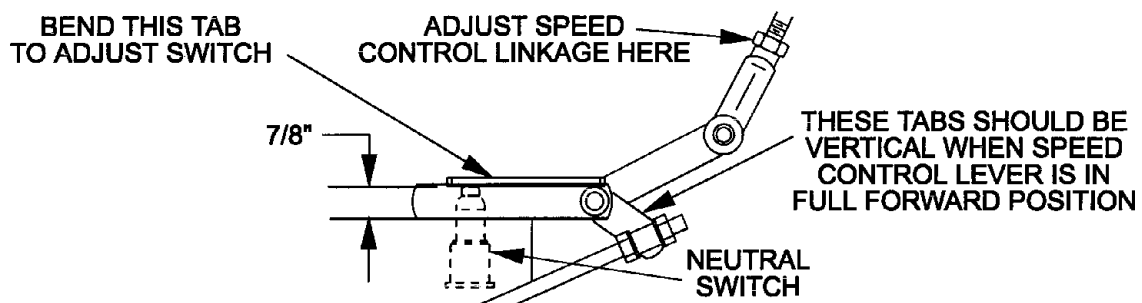

FIG. 8
2. Move speed control lever (located on console) to the full forward position and check orientation of tabs on the ends of the speed control crank (fig. 8). These tabs should be pointing straight down at the 6 o'clock position or slightly forward. Adjust threaded yoke at the bottom of speed control linkage (fig. 8) until tabs are positioned correctly.
3. Pull speed control lever back to neutral. Check that the dimension between the bottom forward tip of neutral switch actuating tab (located at the left hand rear corner of fuel tank) and the top of the fuel tank support is $7/8"$ (fig. 8). If it is not, bend tab on speed control crank to attain $7/8"$ dimension.